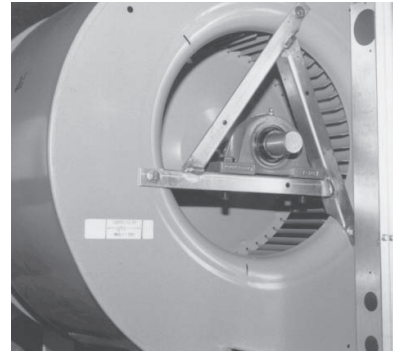

Figure 24. Blower Motors and Bearings—RGLB, RPBL, and PGBL Model BL-Type Blower Cabinets
- Components for RGBL, RPBL, and PGBL model BL-type blower cabinet sections are shown in Figure 23 and Figure 24 and are listed in Table 48.